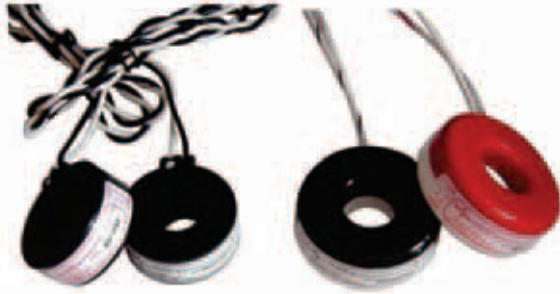

Figure 9: Leviton solid core CTs
- Leviton split core CTs (Figure 9): The side with the white dot or labels as shown in Figure 10 (H1) must face the incoming LINE. White wire connects to X2 terminal, black wire connects to X1 terminal.